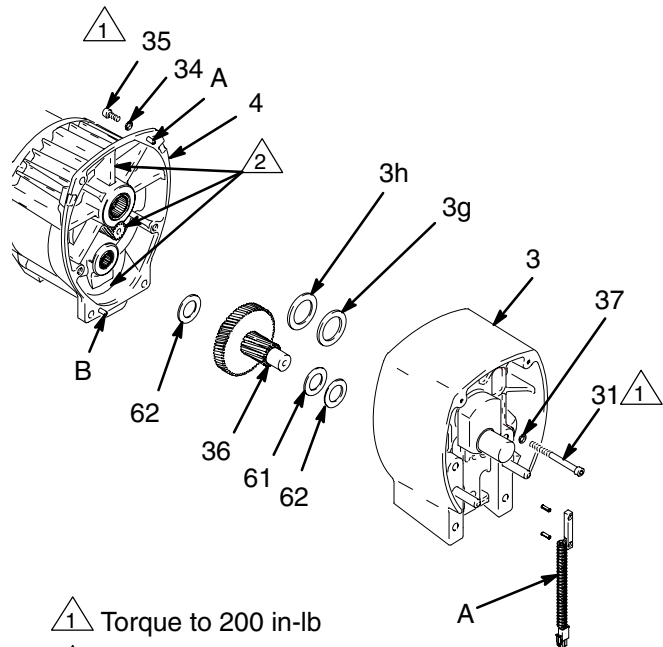

Fig. 3
2. Disconnect reed switch (A).
3. Fig. 3. Remove bearing housing. Do **Removal of Bearing Housing and Connecting Rod** procedure on page 9.
4. Remove two screws (31) and lockwashers (37).
5. Remove four screws (35) and lockwashers (34) from pinion housing (4).
6. Lightly tap around drive housing (3) to loosen drive housing. Pull drive housing straight off pinion housing (4). Be prepared to support gear cluster (36) which may also come out.
1. Liberally apply bearing grease (supplied with replacement gear cluster) to gear cluster (36) and to areas called out by note 2. Use full 0.68 pint (0.32 liter) of grease.
2. Place bronze colored washer (3g) on shaft protruding from large shaft of drive housing (3). Note: If replacing a washer with pin holes with a washer without pin holes, remove guide pins from housing. Place silver colored washer (3h) on pinion housing. Assemble washers (61) and (62) onto gear (36). Align gears and push new drive housing straight onto pinion housing and locating pins (B).
3. Install four screws (47) and lockwashers (37) to pinion housing (4) and drive housing (3).
4. Install two screws (31) and lockwashers (37) to drive housing (3).
5. Fig. 3. Install bearing housing. Do 1. through 6. of **Bearing Housing and Connecting Rod** procedure on page 9.
6. Connect reed switch (A).